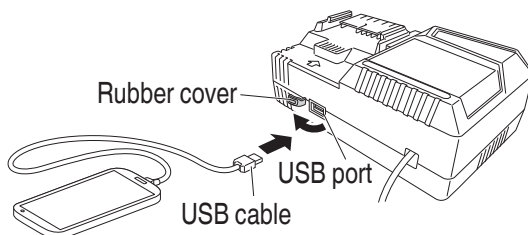

Fig. 20
- (2) Connect the USB cable. (Fig. 20)